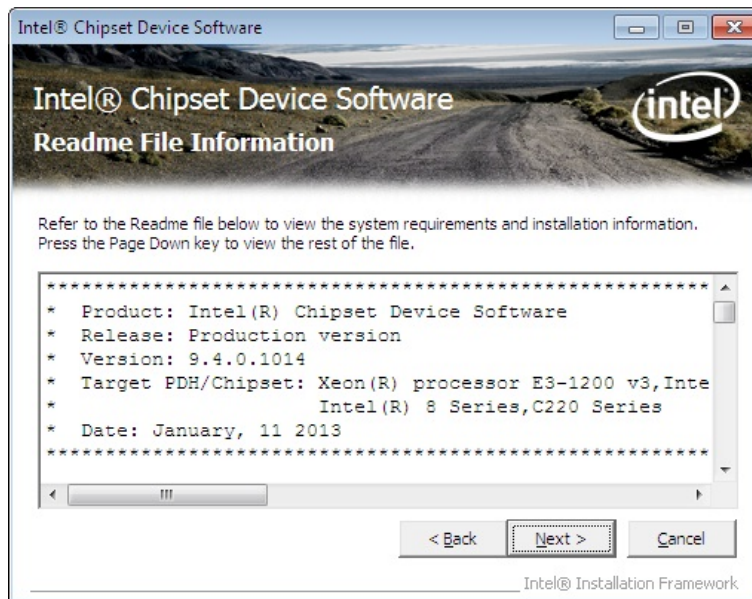

Figure 6-5: Chipset Driver Read Me File
Step 9: The Read Me file in Figure 6-5 appears.